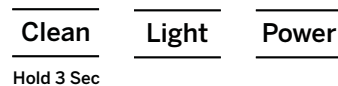

Figure 12
17. When complete, fill unit with fresh water and press the 'Power' button to start making ice. See figure 12.